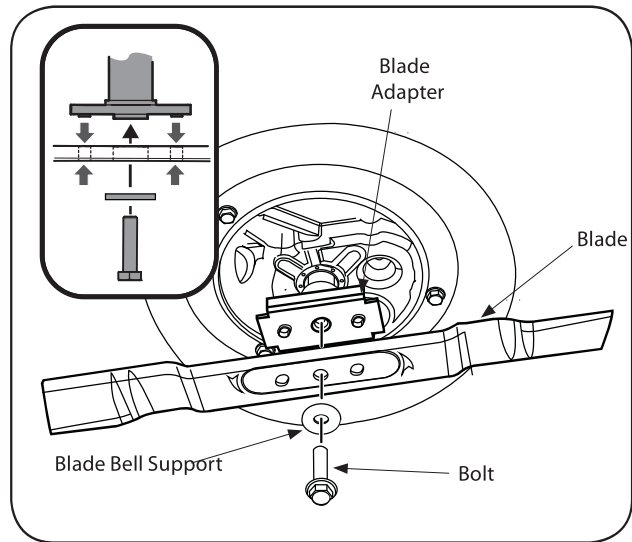

Figure 9
2. Remove the bolt and the blade bell support which hold the blade and the blade adapter to the engine crankshaft (Figure 9).
5. Lubricate the engine crankshaft and the inner surface of the blade adapter with light oil. Slide the blade adapter onto the engine crankshaft. Place the blade on the adapter such that the side of the blade marked "Bottom" (or with part number) faces the ground when the mower is in the operating position. Make sure that the blade is aligned and seated on the blade adapter flanges. See Figure 9 inset.